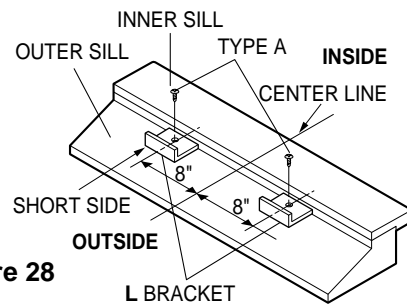

Figure 28
- Carefully lift the air conditioner and slide it into the open window. Make sure the bottom guide of the air conditioner drops into the notches of the L bracket. See Fig. 28.